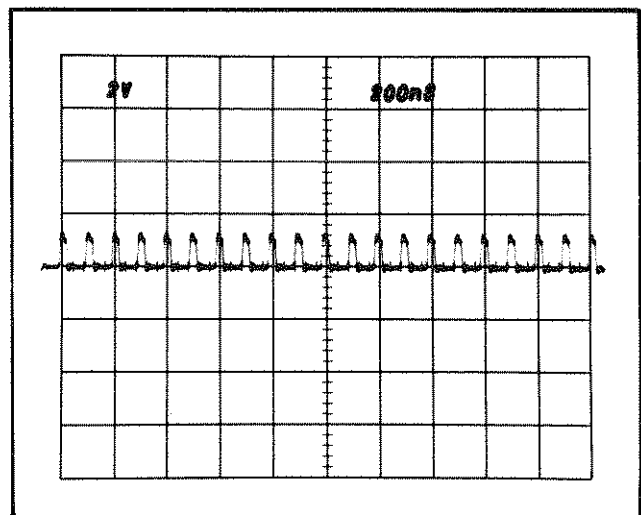

Fig. 5-11. CRT display showing correct 0.2 μs timing.
- c. CHECK—CRT display for two markers each division over the center eight divisions. Check that sweep timing is within 0.16 division (2%) over center eight divisions. See Fig. 5-11.